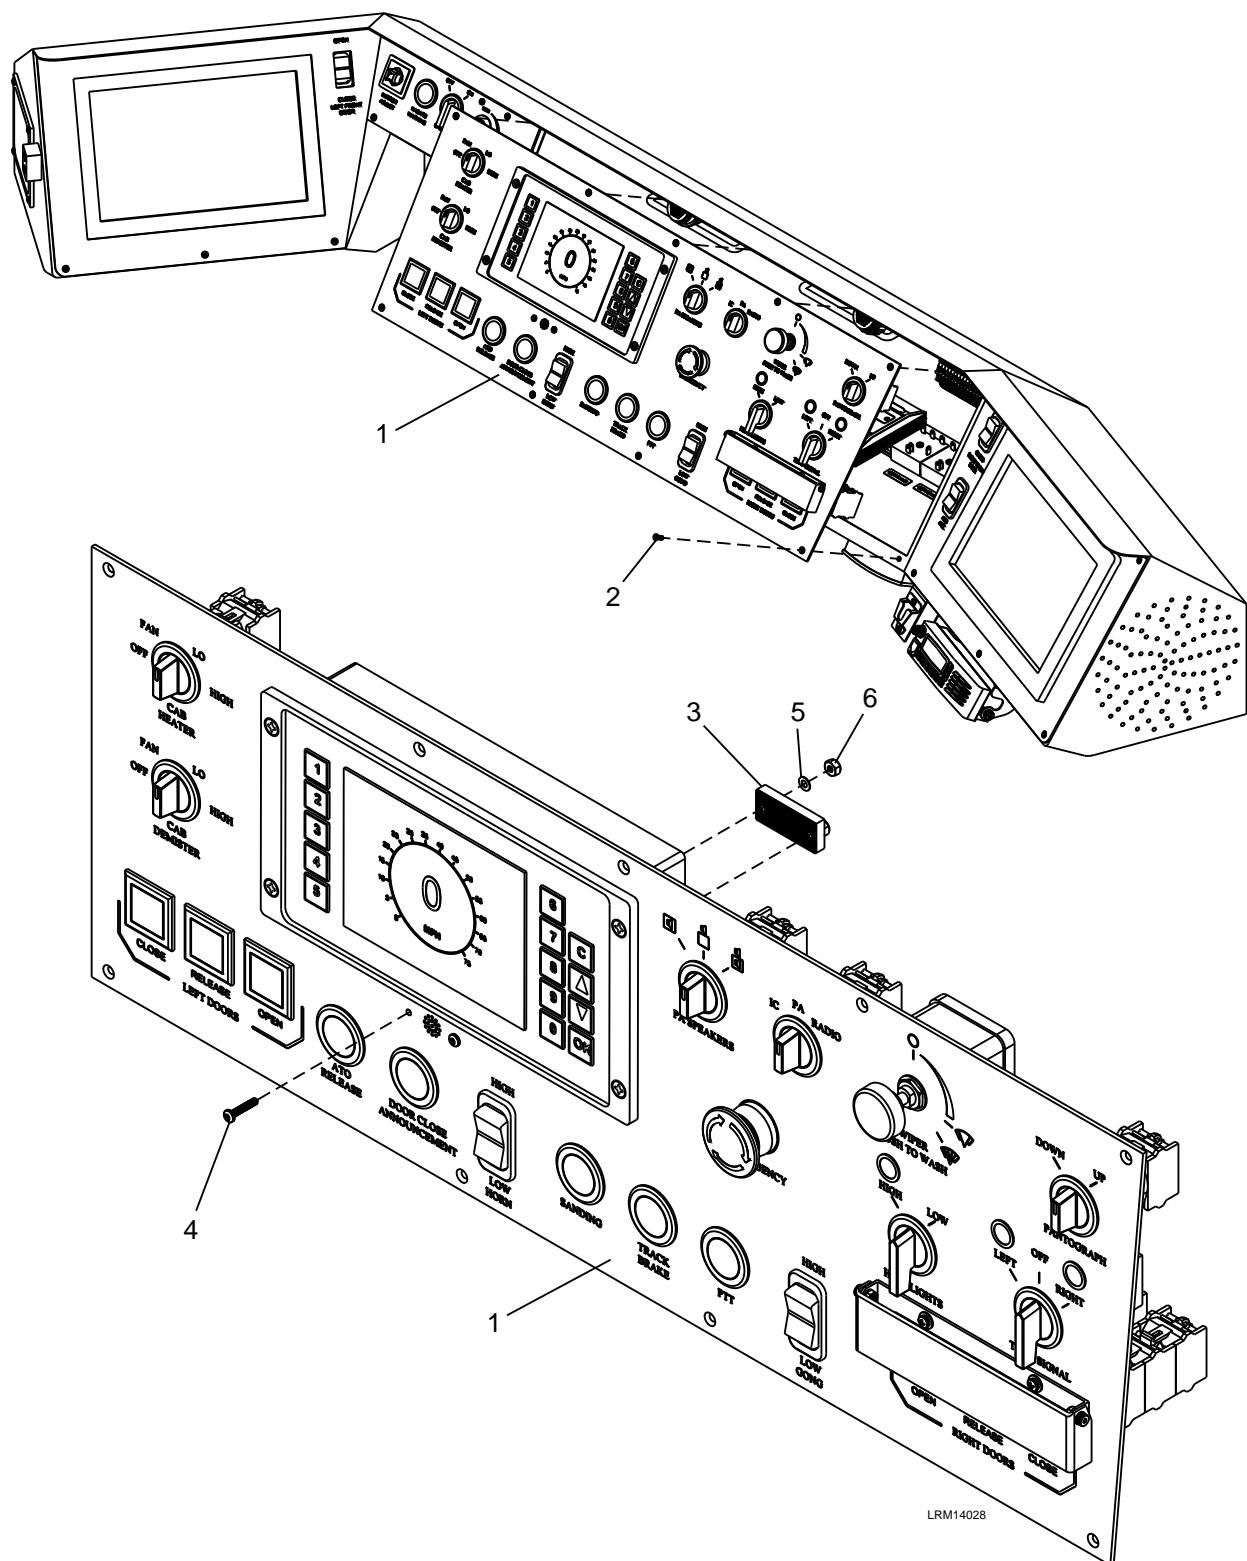

Figure 8-11: In-Dash Microphone
1. Remove the nine #8-32 flat head screws (2) from Console Panel 3 (1). See Figure 8-11.